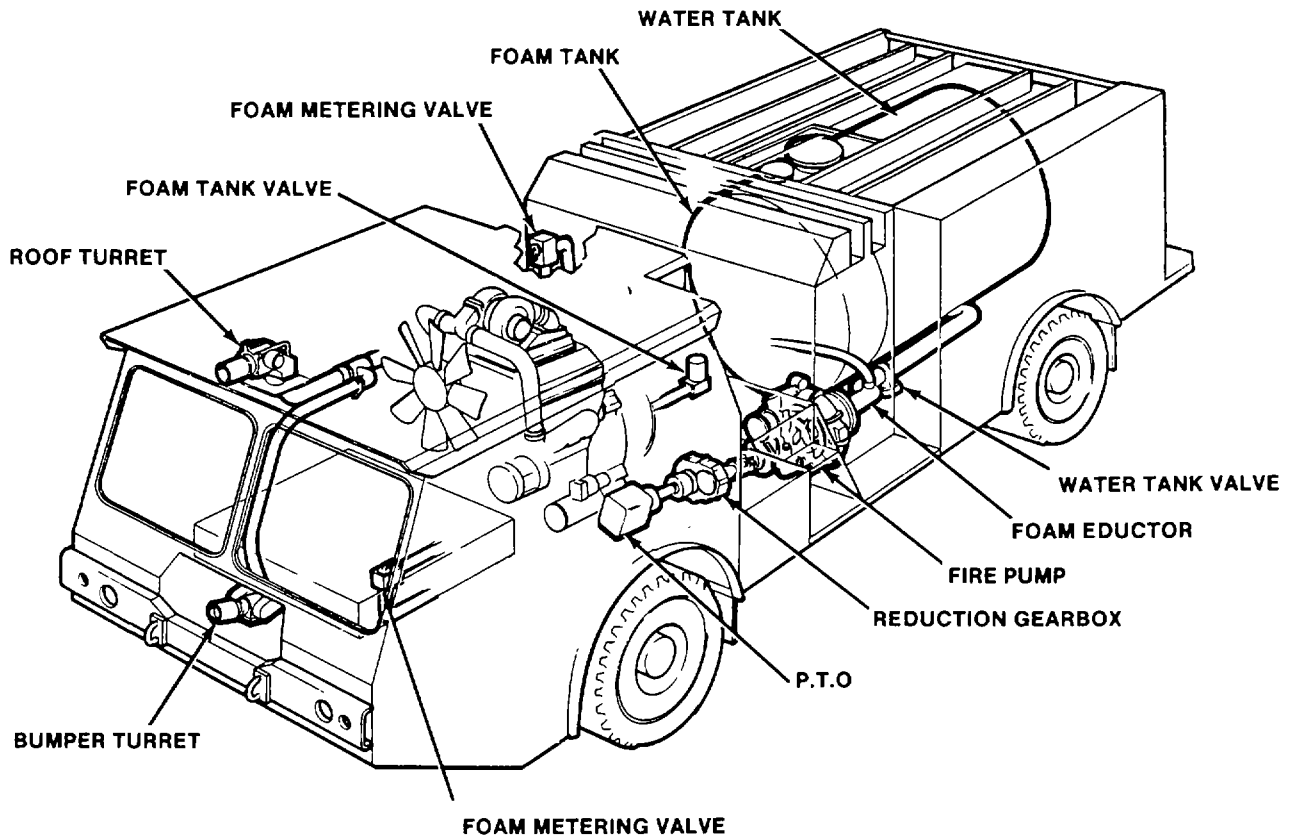

Figure 1-14. Firefighting System Components
(1) The firefighting system consists of a foam and water tank, a fire pump, a water pressure regulating system, a foam proportioning system, and a control system including pressure gages, (see fig. 1-14). The water and foam discharge system includes the roof and bumper turrets and handline discharge ports.
(2) The water tank is mounted on the truck frame. The tank is attached by rubber-and-spring-type flexible mounts to relieve twisting forces from frame flexing during travel in rough terrain. The foam tank is bolted directly to the water tank. The water tank is provided with baffles to reduce surging. These baffles have large cut-outs to ensure unrestricted water passage and service access. Both tanks are provided with overflow lines which provide unrestricted tank ventilation. Filling and service access is provided through fill openings in the top of each tank. These openings are equipped with tight fitting covers which are held closed by clamp type locks. The water tank is equipped with an automatic tank fill valve to enable filling by another pumping unit. This valve is located in the tank rear wall. Another inlet near the top of the tank is used for refilling via the fire pump. A sump at the bottom of each tank provides connection to the water and foam piping systems.